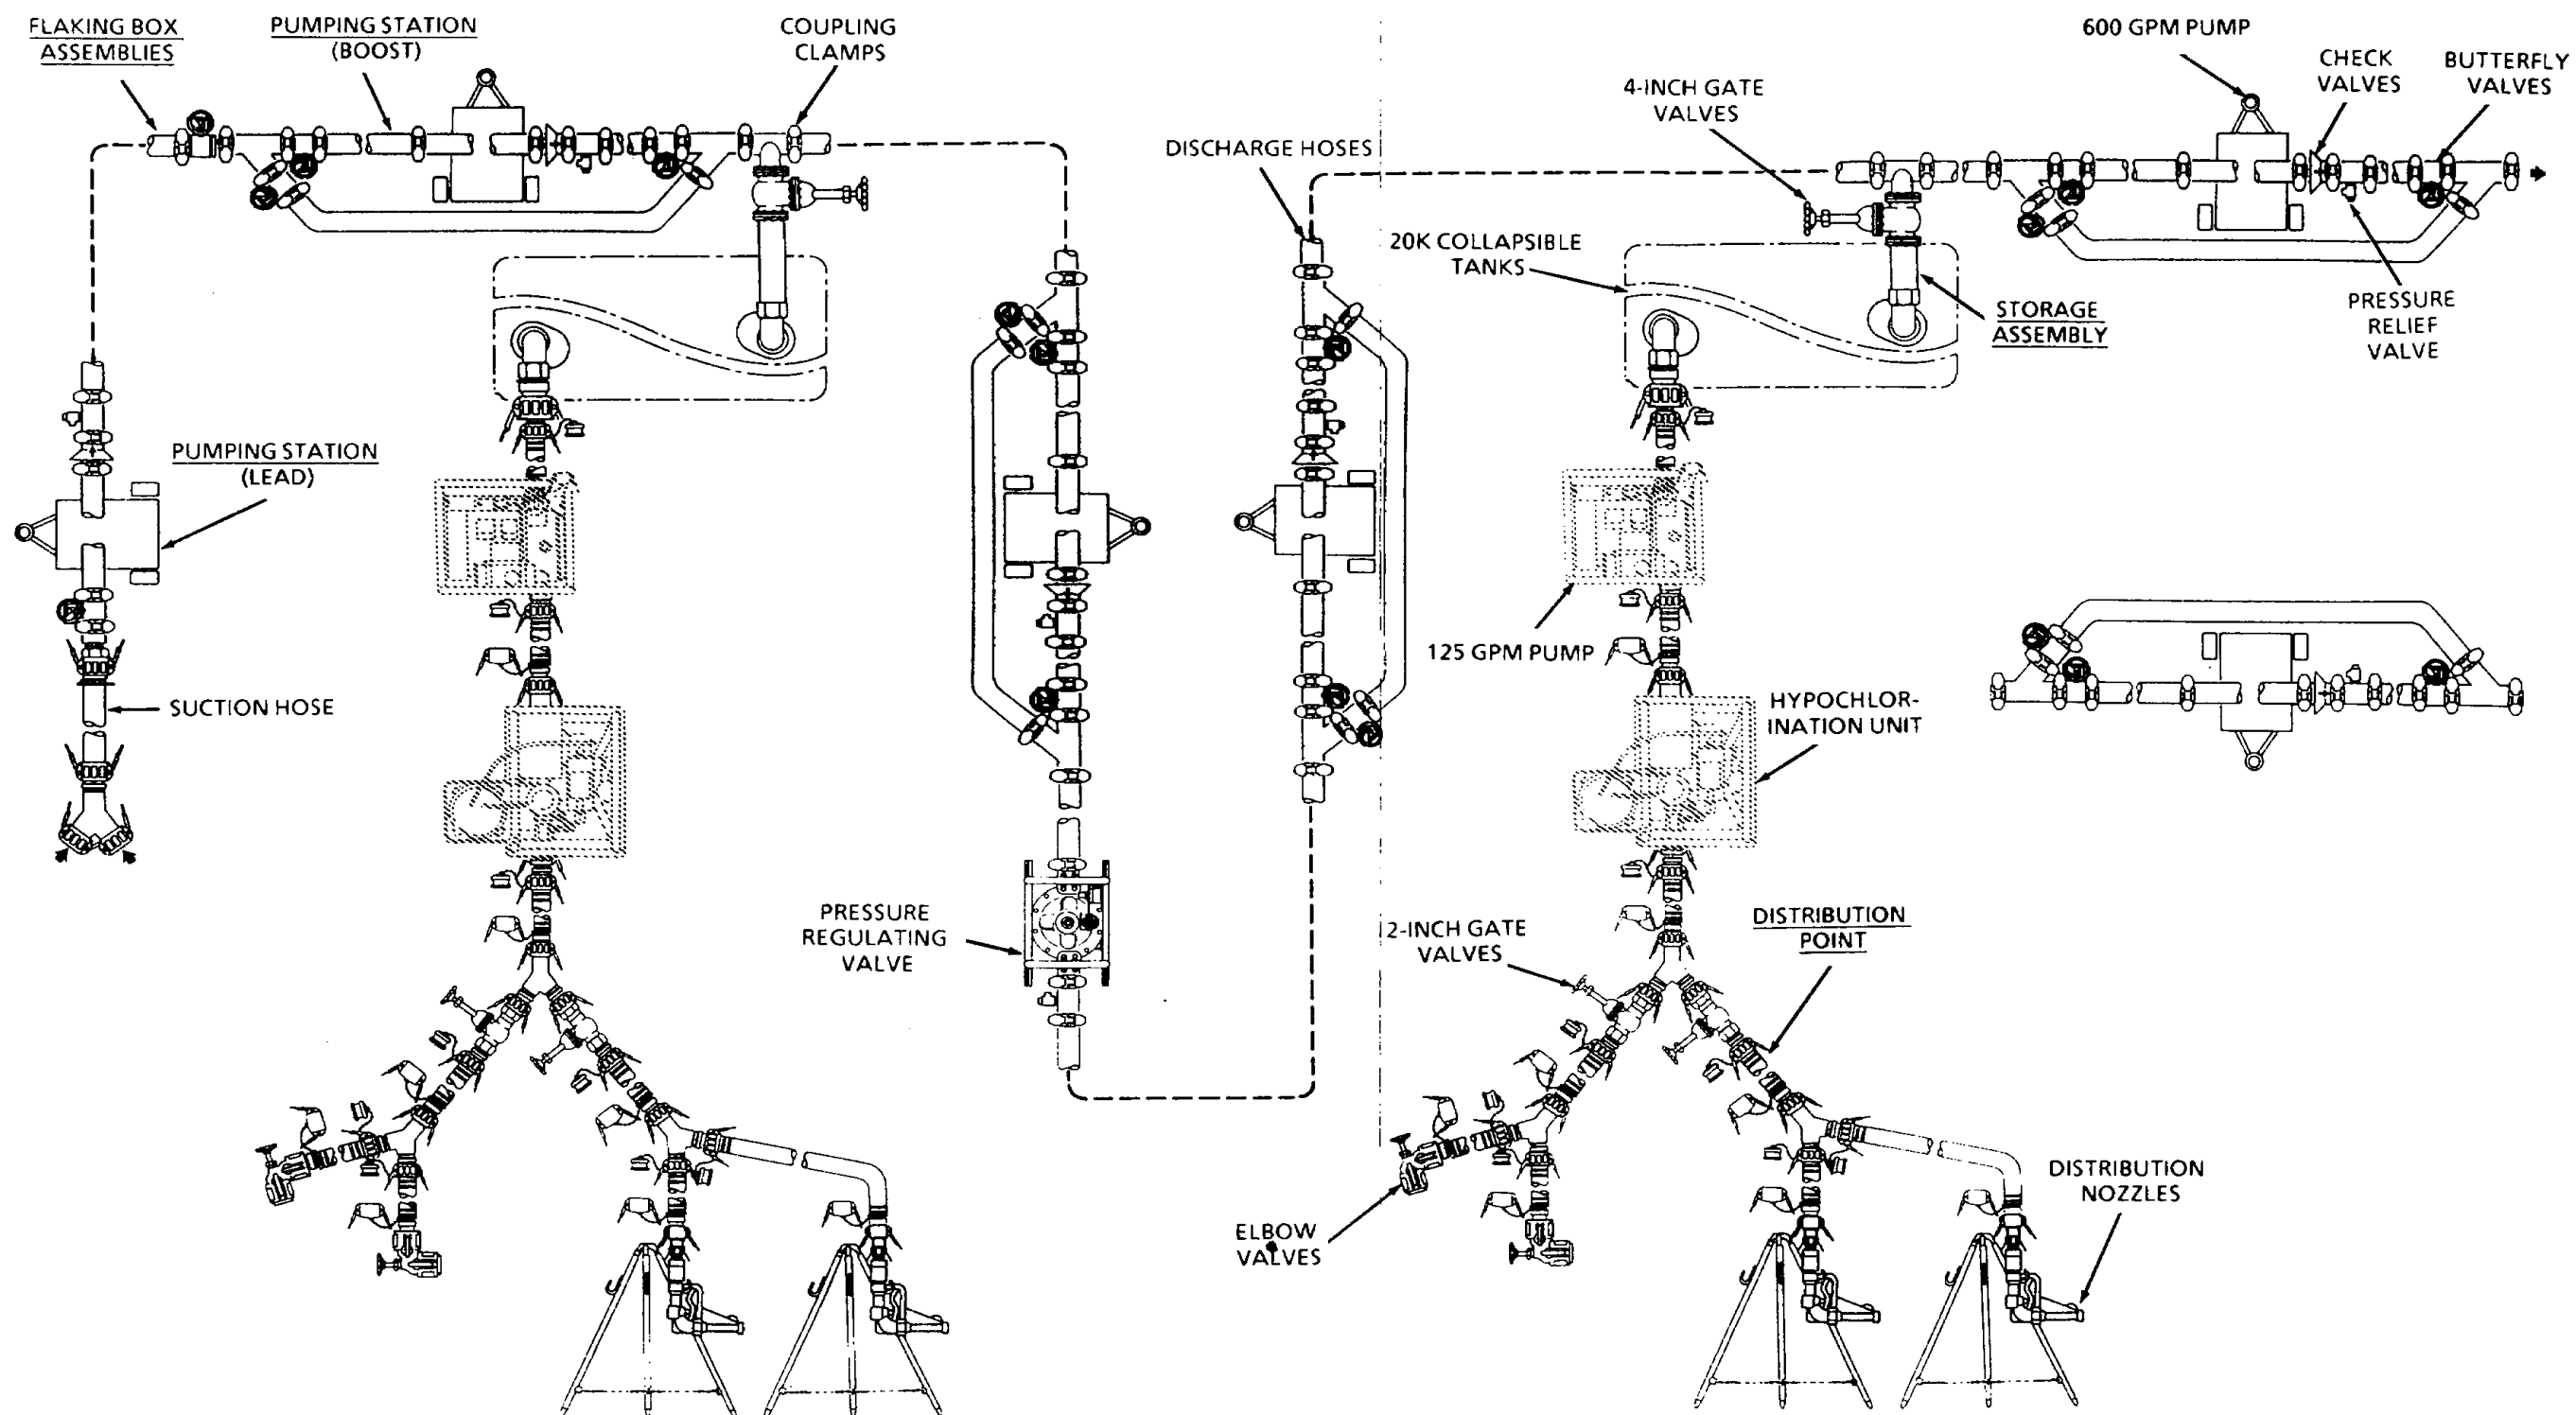

Figure 1-1. Tactical Water Distribution system
- a Flaking Box Assembly Refer to figure 1-1 Sixty-four flaking boxes are supplied with the TWDS Flaking boxes aid setup and recovery of the TWDS hose line
- (1) Flaking Box Used to store and lay discharge hoses. Hoses are flaked into the box for storage and pulled from the box during hose line setup. Removable panels aid repacking. Boxes can be stacked to reduce storage space.
- (2) Discharge Hose The TWDS hose line is made up of 128 6-inch discharge hoses that carry water throughout the system. Each hose is 500 feet long and has a single grooved coupling installed on both ends. Hoses are joined using coupling clamps.